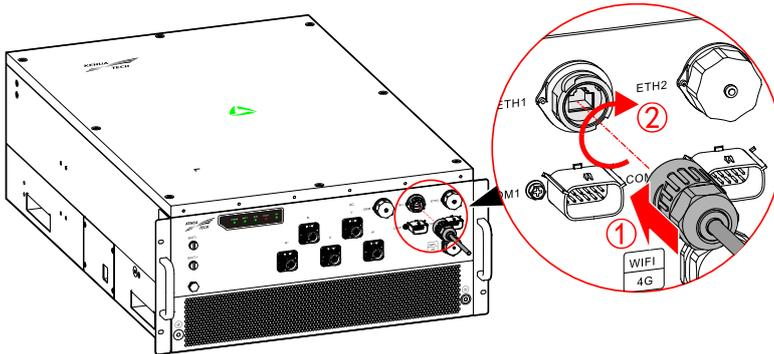

Figure3-31 ETH port connection diagram
Step 3 Connect the crimped Ethernet communication wire to the ETH port of PCS, as shown in Figure3-31.